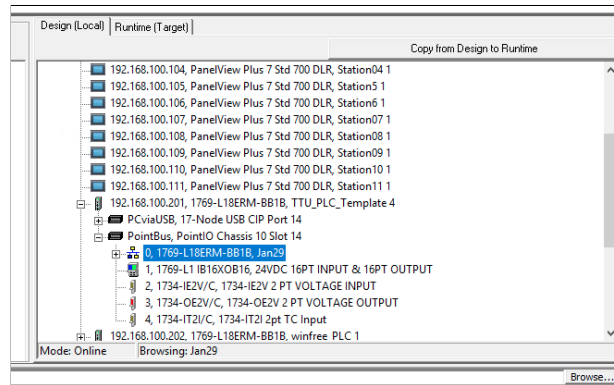

Figure 7: PLC Selection in HMI Communication Setup
In the window that opens, navigate to the PLC associated with your lab seat. **Click the plus beside the PLC associated with your lab seat. Click the plus beside the item named PointBus.** Now, **highlight the item 0**. Refer to Fig.7 for clarification.
*—Note 12— In Fig.7 the user was sitting in seat number 1. **You most likely will not select the same PLC IP address shown in the image.** Refer to Table1 to verify which IP address is associated with your seat.*